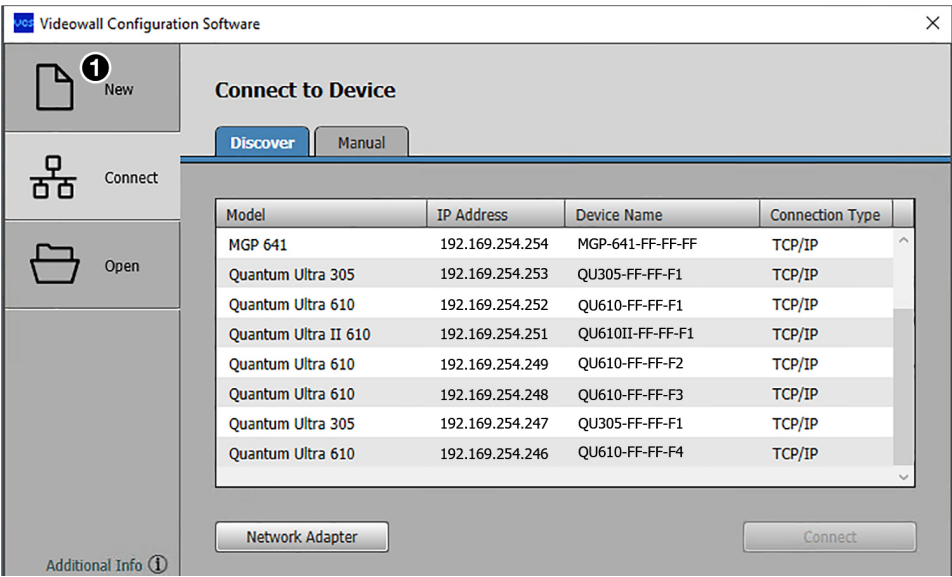

Figure 69. Connect to Device Screen
1. On the **Connect to Device** screen, select the **New** side tab (see figure 69, ① on page 84).